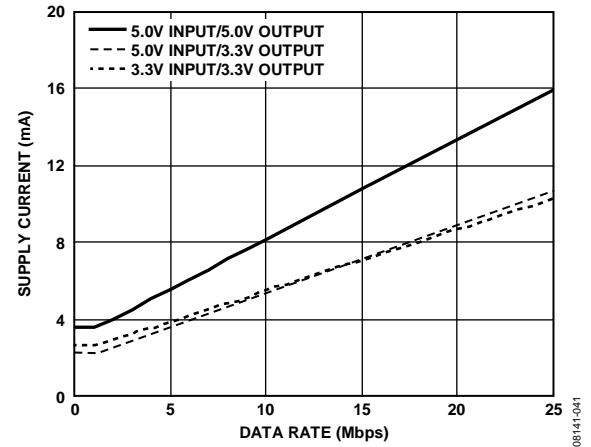
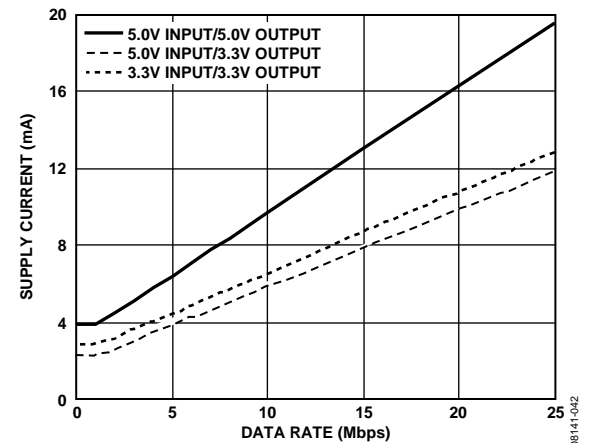

Figure 23. Typical I_{CHn} Supply Current per Forward Data Channel (15 pF Output Load)
Figure 24. Typical I_{CHn} Supply Current per Reverse Data Channel (15 pF Output Load)
Both dynamic input and output current is consumed only when operating at channel speeds higher than the refresh rate, f. Each channel has a dynamic current determined by its data rate. Figure 23 shows the current for a channel in the forward direction, which means that the input is on the primary side of the part. Figure 24 shows the current for a channel in the reverse direction, which means that the input is on the secondary side of the part. Both figures assume a typical 15 pF load. The following relationship allows the total I_{DD1} current to be calculated:
- I_{CHn} is the current drawn by a single channel, determined from Figure 23 or Figure 24, depending on channel direction.
- I_{ISO(D)n} is the dynamic load current drawn from V_{ISO} by an input or output channel, as shown in Figure 23 and Figure 24 for a typical 15 pF load.